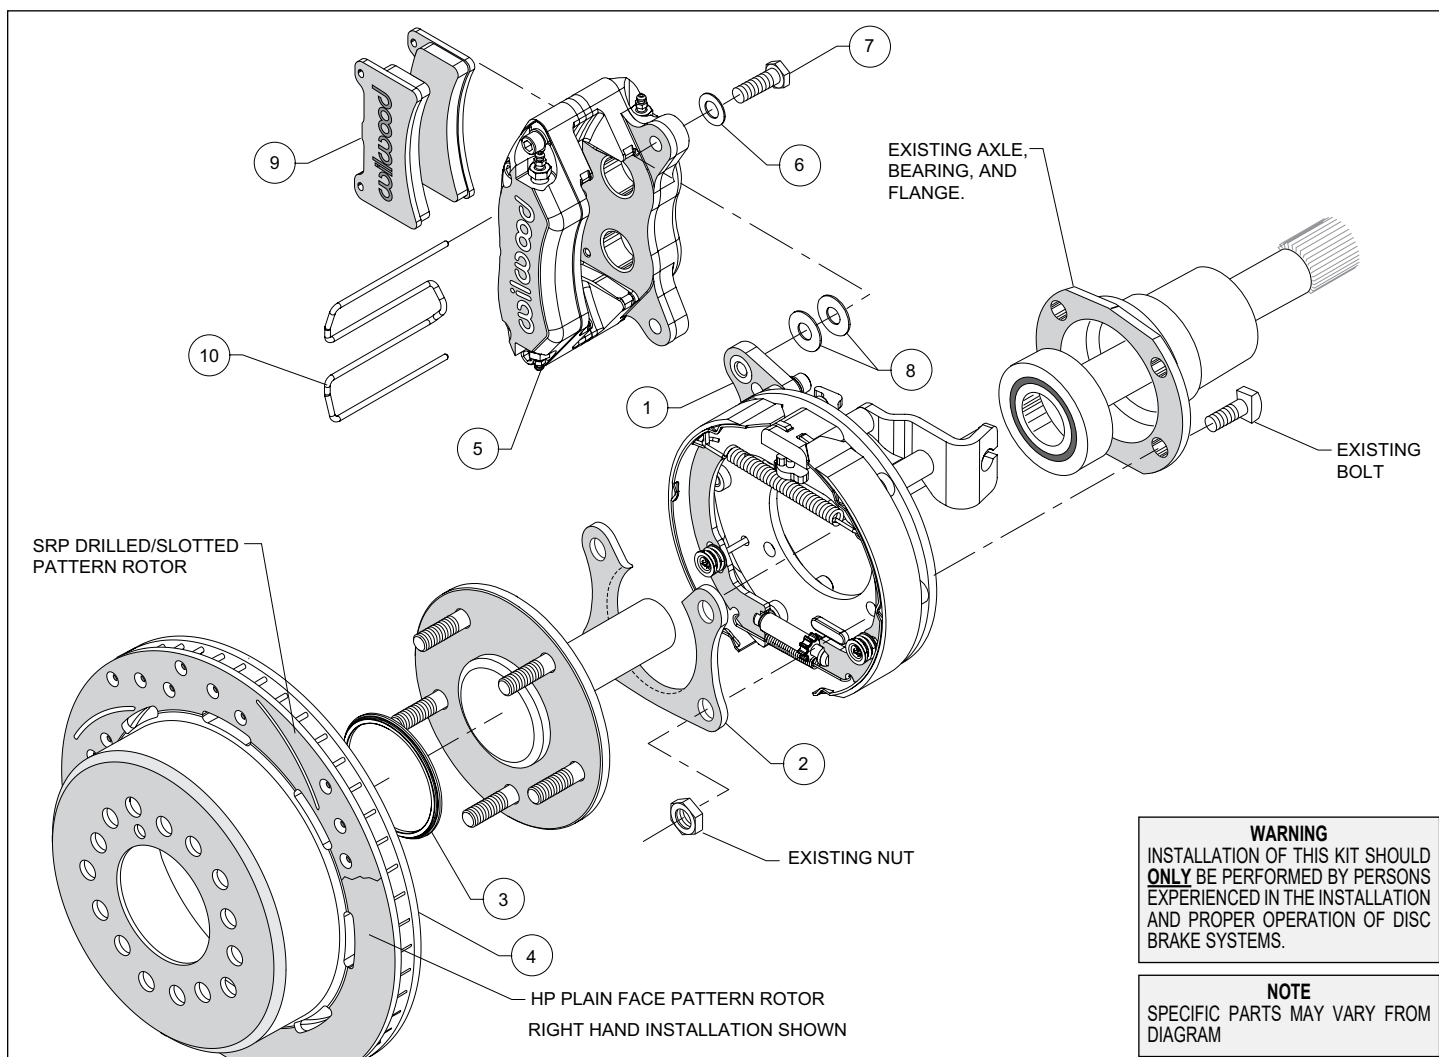

Figure 1. Typical Installation Configuration
NOTE: Numbers in parenthesis refer to the parts list and Figure 1 on the preceding pages.
- Orient the bracket assembly (1) as shown in Figure 1 and Photo 1 and slide it onto the axle. Insert the axle and bracket into the axle housing. Ensure that the bracket assembly backing plate fits flush against the axle housing flange.
- Install the bearing retainer (2) with the opening pointing upward and the lip facing inward (toward the bearing), as shown in Figures 1 and 4, and Photo 2. Secure retainer and bracket assembly to the axle housing flange using the Original Equipment Manufacturer (OEM) bolts and nuts, Figure 1. Apply red *Loctite*® 271 to the OEM bolt threads and torque to OEM specifications.
•Slide the rotor registration adapter (3) onto the axle register on the axle flange with the smaller O.D. facing toward the rotor/hat (4), Photo 3. Align the correct hole pattern in the rotor/hat with the stud pattern on the axle flange and slide into place, Figure 1 and Photo 4. **NOTE:** The rotor/hat must fit flush against the axle flange or excessive rotor run out may result. Install three lug nuts (finger tight) to keep the rotor/hat assembly in place while continuing with the installation. **NOTE:** Some OEM and after market axles come with stud sizes larger than 0.50" diameter. Verify stud size and have a qualified machine shop drill the bolt circle of the hat/rotor to the correct stud size, if necessary.
•**NOTE:** Please reference the caution statement at the beginning of the assembly instructions. Mount the caliper (5) onto the caliper mounting bracket (1) using bolts (7) and washers (6), as shown in Figure 1. Initially place two .035" thick shims (8) on each bolt between the caliper and the bracket, Photo 5. **NOTE:** For forward mounted calipers only, the cable bracket must be temporarily removed to allow access to the upper caliper mount bolt. Remove the two flathead bolts holding the cable bracket to the parking brake backing plate, Photo 6. **DO NOT mix the bolts or spacers.** They must be reinstalled in the same locations as they were removed.